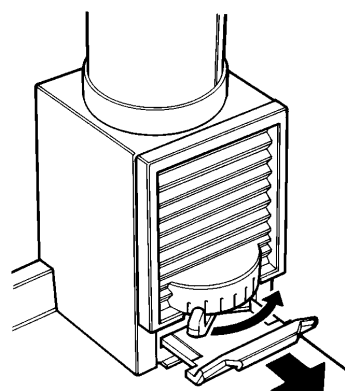

Fig. 9
- Open flue chamber damper to maximum (Fig. 9).
- Flue dilution lever fully to 'left' (flue chamber door closed, Fig. 9).
- Flue dilution lever fully 'left'. (flue chamber door closed, Fig. 9).
Turn the pivoted dilution lever (on the bottom front flue chamber door) Fig. 9 from left to right hand side so that the door opens at the bottom and minimises the burning rate and chimney condensation.